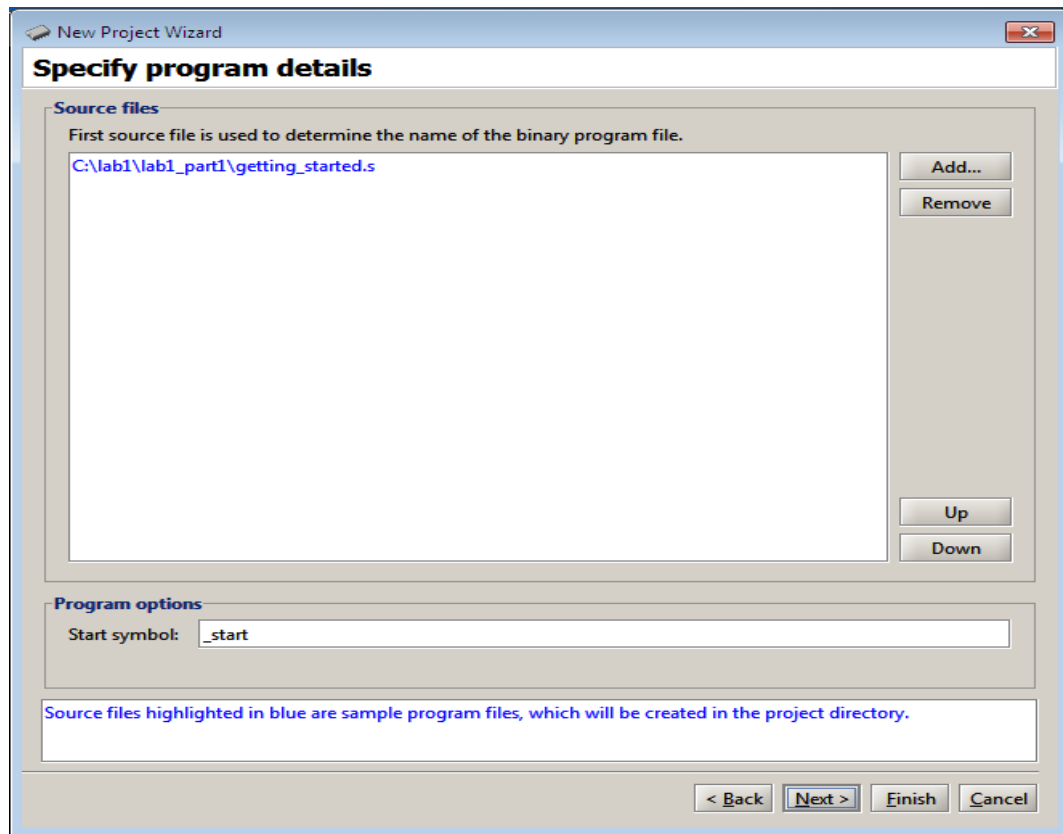
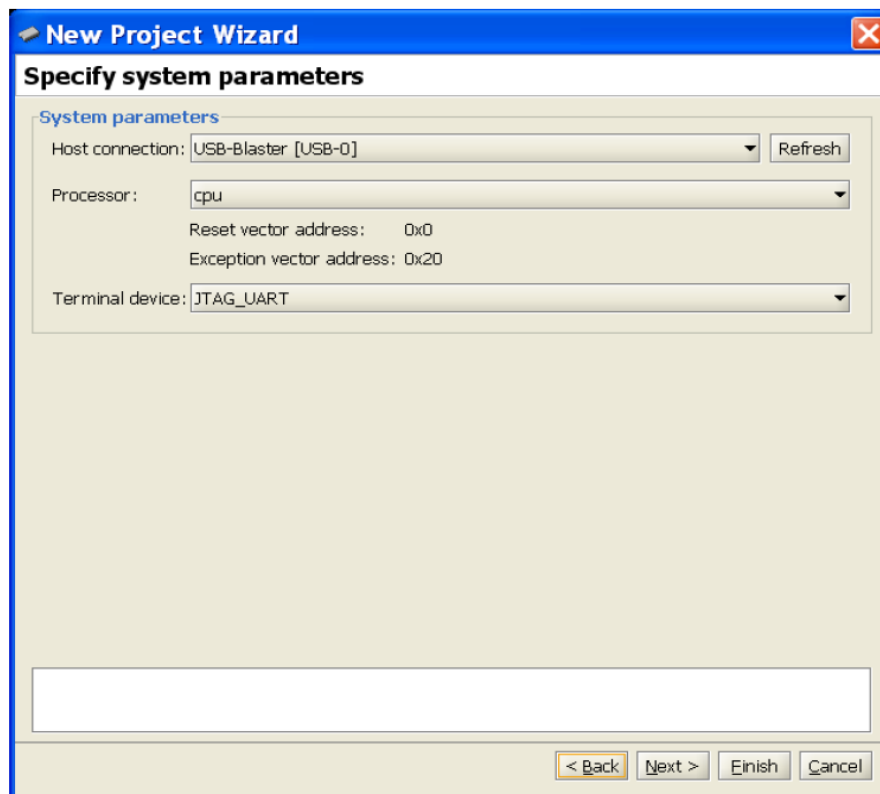
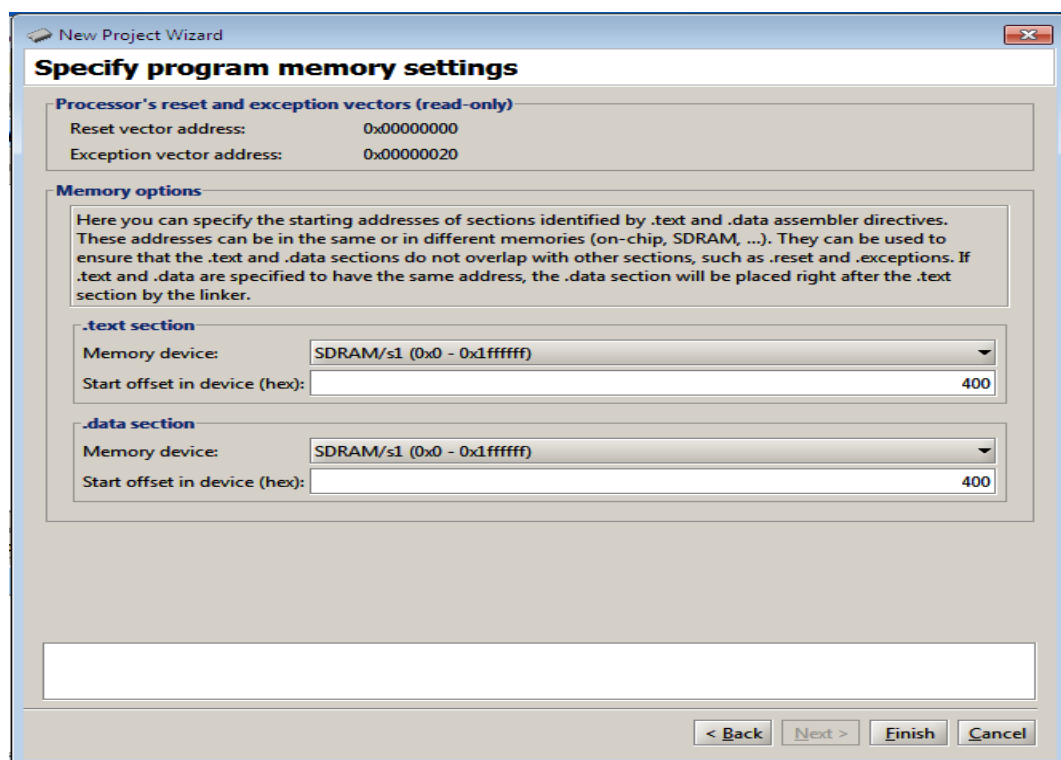
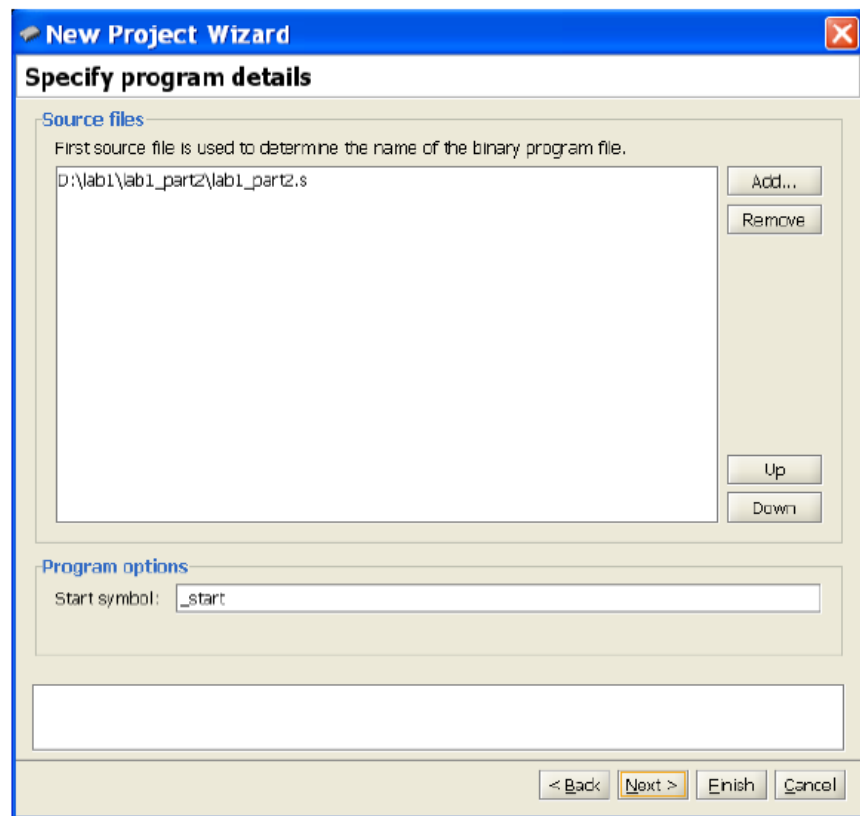

Figure 6: Source files used by the application program.
Figure 7: Specify the system parameters.
Figure 8: Specify the program memory settings..
Figure 13: Select your source program.
5. The window in Figure 6 is used to specify the source file(s) that contain the application program(s). Since we have selected the *Getting Started* program, the window indicates the files that are used by this program. This window also allows the user to specify the starting point in the selected application program. The default symbol is `_start`, which is used in the selected sample program. Click **Next**.
6. The window in Figure 7 indicates some system parameters. Note that the *USB-Blaster* cable is selected to provide the connection between the DE0-Nano board and the host computer. Click **Next**.
7. The window in Figure 8 displays the preselected components of the DE0-Nano Basic Computer. Observe that the SDRAM is selected as the memory device to be used. The start offset is 0x400, which means that the application program will be loaded in the memory locations that begin at address 400 in hexadecimal format. Since this choice was made by the designer of the sample program, you cannot change the selection in Figure 8. Click **Finish** to complete the specification of the new project.
3. Upon reaching the window in Figure 6, you have to specify your program. Click **Add** and in the pop-up box that appears indicate the desired file name, `lab1_part2.s`, and its location. This should lead to the image in Figure 13. Click **Next** to get the window in Figure 7. Again click **Next** to get to the window in Figure 8. Make sure that the SDRAM is selected as the memory device. Note that the *Start offset in device* will be 0, because the program in Figure 11 does not indicate that it should be loaded at a location that is different from the default location 0. Click **Finish**.